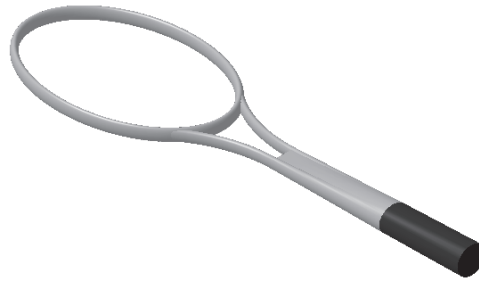

Figure 10-75 The final model
- Create the fill surfaces, refer to Figure 10-75.
4. Similarly, create another fill surface using **Sketch.9** to cover the open side of the **Multi-Sections Surface.1**. You need to split the fill surface using the sweep and symmetry surface. You can apply different colors to different surfaces for a better visualization by right-clicking on them and choosing the properties option from the contextual menu. The final model will be created, as shown in Figure 10-75.